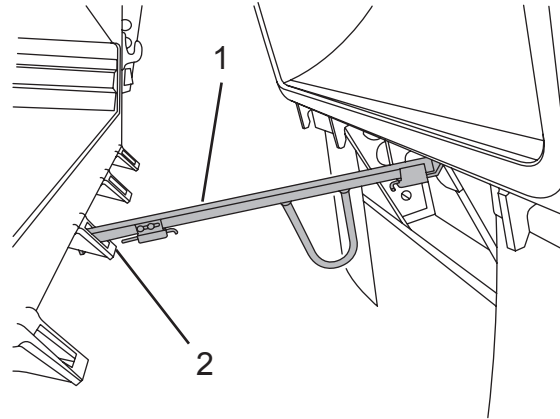

Figure 49
6. Turn ignition switch to the ON position. Do not start engine. Lower the tailgate until the prop (Figure 49, Item 1) are fully seated in the pocket (Figure 49, Item 2).